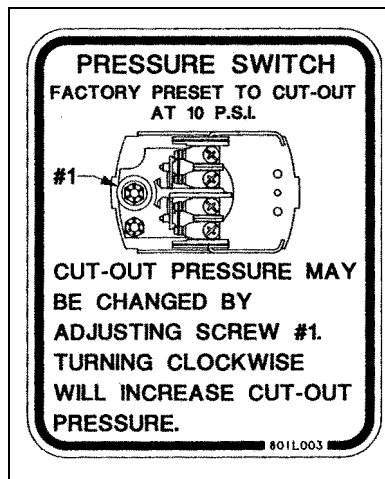

Figure 7A
**Note: If the pressure limit is set below five (5) psi, the switch may not reset and allow the air transfer to run. (See Figure 7A).**